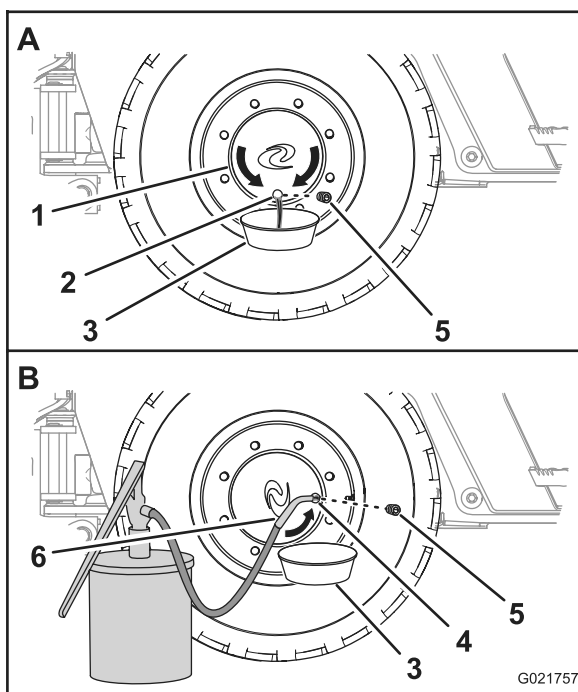

Figure 65
1. Move the machine forward or backward until the oil plug for the wheel hub is at the 6 o'clock position (Figure 65).
2. Place a drain pan under the oil port of the wheel hub (Figure 65).
3. Remove the plug and drain the oil from the planetary (Figure 65).
5. Move the machine forward or backward until the oil plug for the wheel hub is either at the 3 o'clock or the 9 o'clock position (Figure 65).